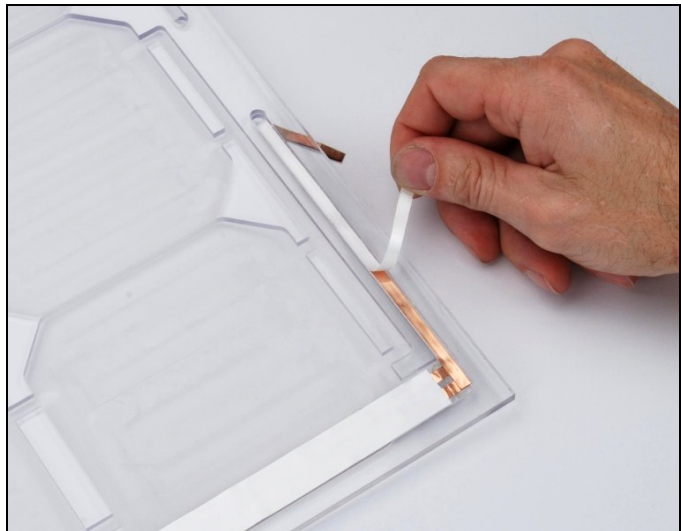

Figure 7
- ✓ Remove the pink protective cover from one of the single-conductor strips, and thread it through the hole (in groove "F"), then lay it into the groove, adhesive side down. It should overlap the two-conductor bus-bar, as shown in Figure 7 such that there is an exposed copper area where a solder bridge can be made at the overlapping junction.